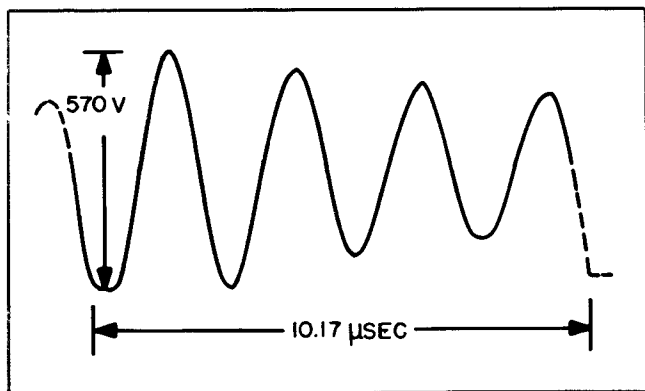

Figure 6-4. Clipper Output Waveform
b. Connect probe of synchroscope to plate 5 of V112, and adjust tuning slug of T110 for a damped-wave train having four complete cycles. (See figure 6-4.)